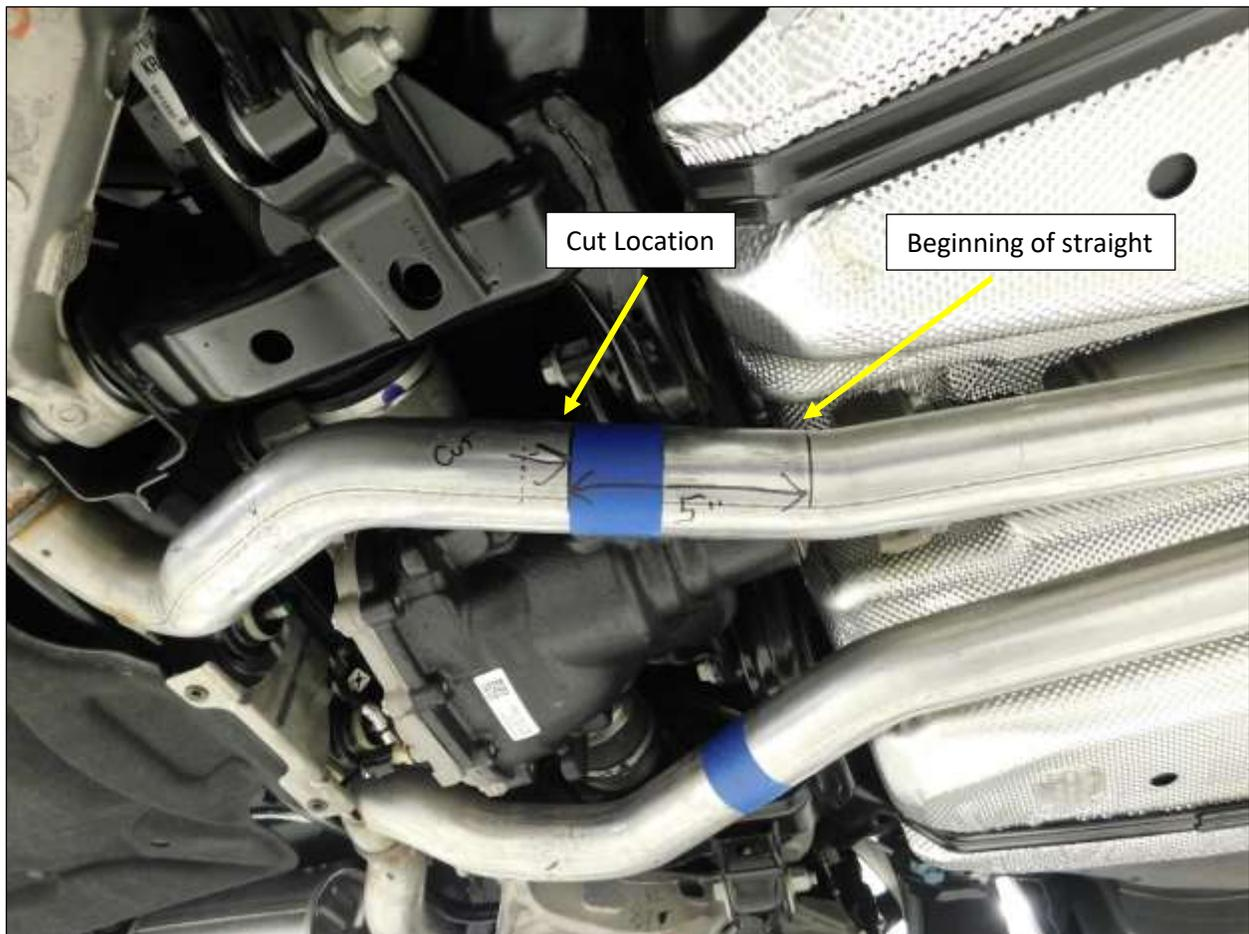

Figure 5
- Between the resonator and the differential, measure 5" from the beginning of the straight section of tube after the bend towards the muffler (**Fig. 5**).
- Use a reciprocating saw or cut off wheel and cut the exhaust at the edge of the tape, as shown in **Fig. 5**.